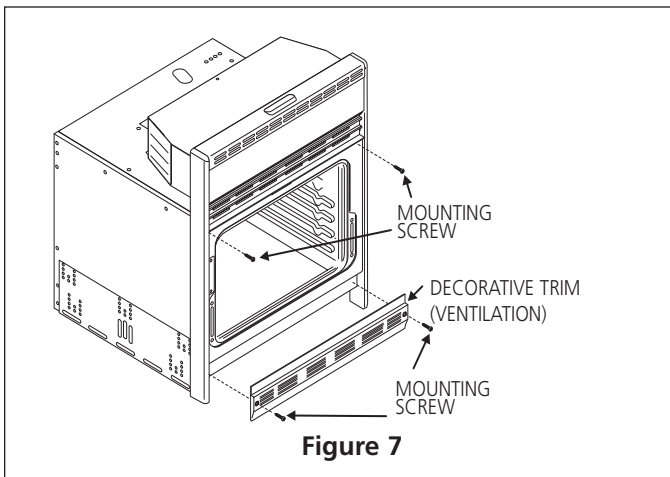

Figure 7
1. Line up the 2 mounting holes on the decorative trim (ventilation) (taped to the oven side panel) with the lower mounting holes on each side of the oven frame, below the oven door (see figure 7).